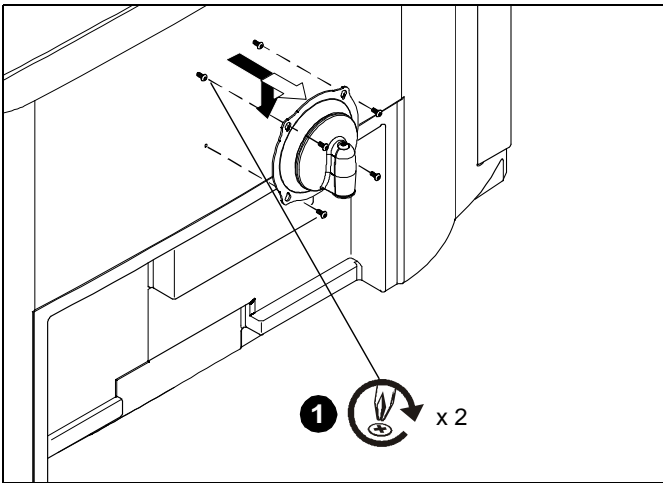

Figure 3
1. Start two M4 x 8mm Phillips pan head screws (included in interface bracket hardware kit) into upper mounting holes in display back. (See Figure 3)